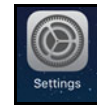

Figure 3
1. Find and tap the Settings icon on the tablet (Figure 3).